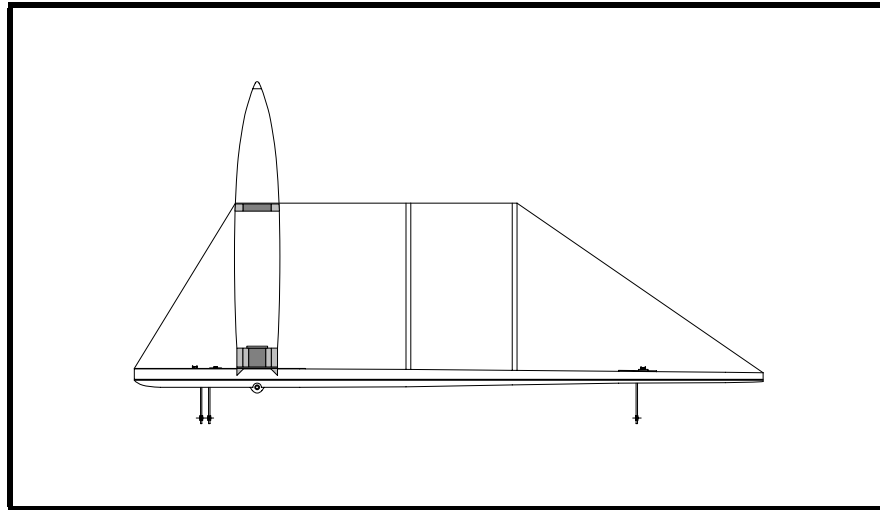

Figure 5
- ❑ Fit the intermediate rib for Sta. 2 in place. See Figure 5.